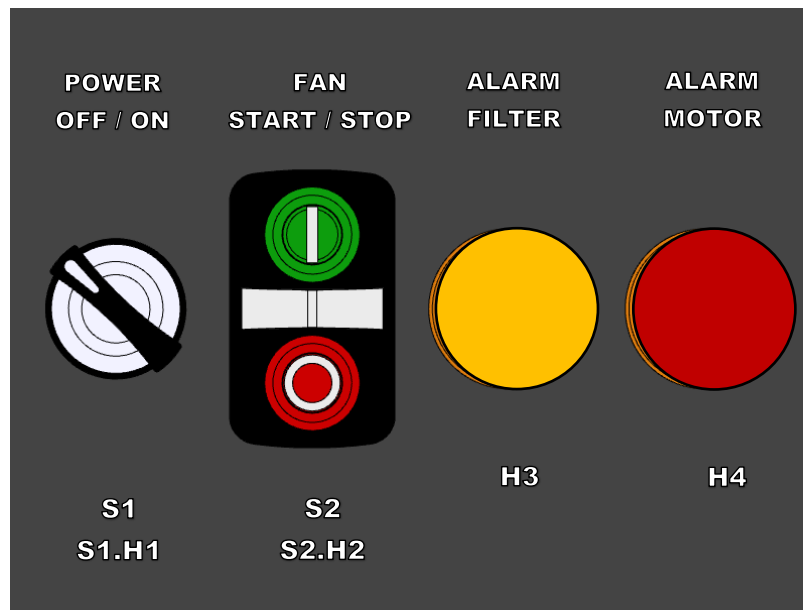

Figure 7 Appearance of the control panel
- A. To switch on the power supply, set the rotary **POWER** switch located on the control panel to the **ON** position – see Figure 7 on page 27 above. Voltage will appear in the power supply circuit, and then the white lamp **S1.H1** located in switch **S1** will light up.
- A. Press the green **START** button in switch **S2** located on the control panel. Fan operation is indicated by the white lamp **S2.H2** in the middle of this switch lighting up – see Figure 7 on page 27 above.
- A. Press the red **STOP** button in switch **S2** located on the control panel. The fan will stop with a **slow run-down**. The white lamp **S2.H2** will go out – see Figure 7 on page 27 above.
- A. Switch off the power supply by setting the **POWER** switch to the **OFF** position. Lamp **S1.H1** will go out – see Figure 7 on page 27 above.
Motor circuit breaker **Q1M** protects the fan motor against overload, short circuit and the consequences of blocked start-up. In the event of **tripping of breaker Q1M**, the control system will disconnect the motor power supply circuit - the fan will switch off, and the white lamp **S2.H2** will go out – see Figure 7 on page 27, and the alarm will be signalled by flashing of the red lamp **H4 "MOTOR ALARM"**. After this alarm occurs, the cause of the alarm must be identified, and then the condition of the motor must be checked electrically and mechanically.
To stop the device in an emergency, turn the **POWER** switch to the **OFF** position or press the **S2 "STOP"** button (red field) on the electrical unit panel – see Figure 7 on page 27 above.